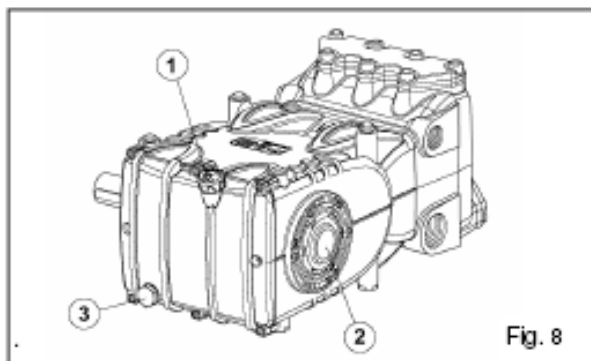

Fig. 8
Check oil level at least on a weekly basis Fig.8.
If necessary add the missing oil through the oil plug pos.1, Fig.8. Check oil level when the pump is at room temperature. When changing the oil (removing plug pos.3, Fig.8), the pump should be at its working temperature.
Check oil level through the oil level indicator 1, Fig.8 at least on a weekly basis.
In order to drain the oil from the pump remove the magnetic plug 2, Fig.8.
At every oil change clean the magnetic plug 2 Fig.8 and check the lower cover of Fig.7 for sediments or deposits.